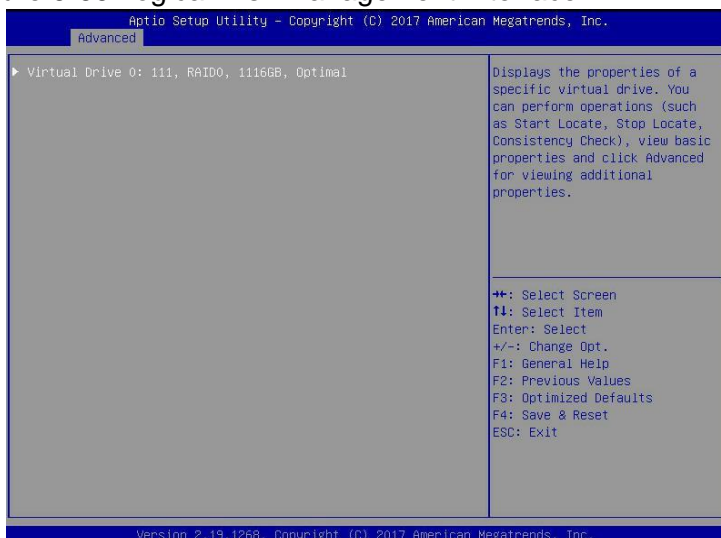

Figure 6-66
- b) Enter the interface shown in Figure 6-66, select the logical disk to be initialized, and press Enter.
❖ Figure 6-66 Logical Disk Management Interface